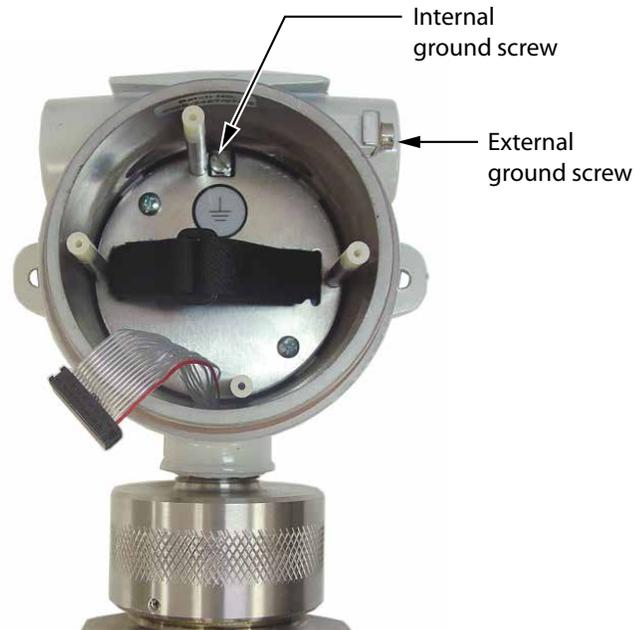

Figure C.4 - Ground screw locations
6. Connect the FOUNDATION fieldbus power cable to TB4 on the fieldbus interface board. See Figure C.4, page C-7.
- An internal ground screw is mounted inside the enclosure near the top of the backplate. FOUNDATION fieldbus cable can be routed through a conduit opening in the top of the Scanner 2000 enclosure and connected to this ground screw (Figure C.4, page C-7).
If national or local electrical codes require the enclosure to be grounded, a protective earth grounding conductor may be required. To install a protective earth ground, connect an earth ground conductor to the stainless ground lug near the top of the Scanner 2000 enclosure (also shown in Figure C.4) or to the internal ground screw, and connect the other end to a ground rod or other suitable system earth ground. The ground lugs will accept wire sizes from 14 AWG solid conductor to 4 AWG stranded conductor.